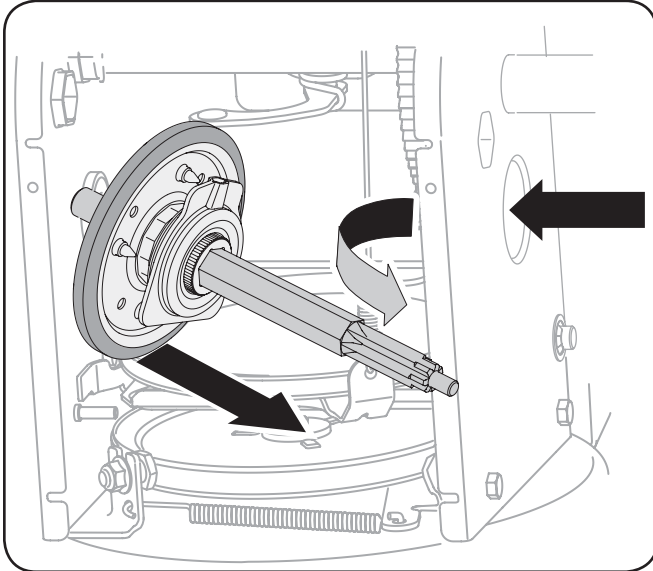

Fig. 7-11
6. Carefully position the hex shaft downward and to the left before carefully sliding the friction wheel assembly off the shaft. See Fig. 7-11.